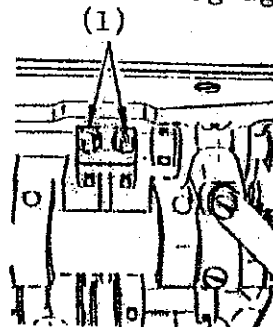

FIG.23
2. Loosen the screws(1) Fig.23 for the feed shaft crank.
4. Tighten the screws(1) Fig.23 for the feed shaft crank.